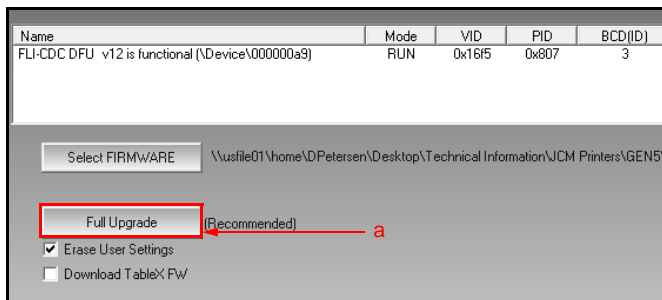

Figure 8 Select the Full Upgrade Button
7. Make sure the Erase User Settings check box is selected. Then click the Full Upgrade button (Figure 8 a).